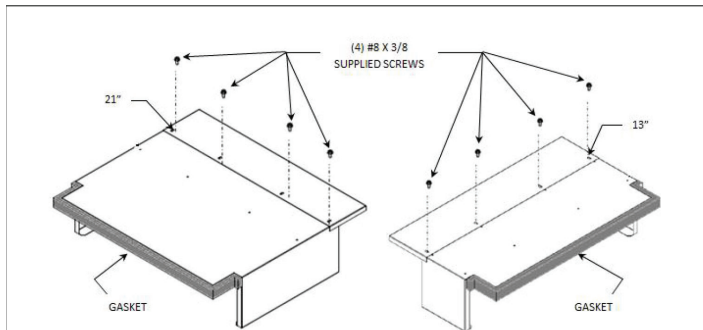

Figure 6
1. On 13" & 21" Depth Applications Only: Attach the baffle extension with 4 supplied screws. (See Figure 6)
2. Attach supplied gasket to designated baffle. (See Figure 6)